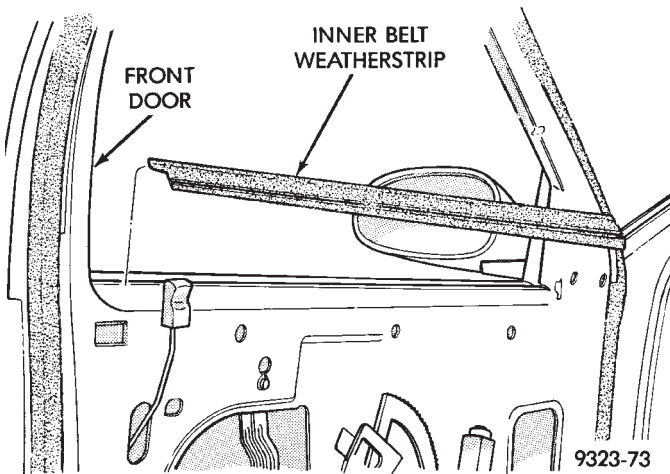

Fig. 39 Door Inner Belt Weatherstrip—Typical
- (1) Remove trim panel from rear door.
- (2) Lift inner belt weatherstrip upward to disengage channel from top of inner door panel.
- (3) Separate belt weatherstrip from door (Fig. 39).